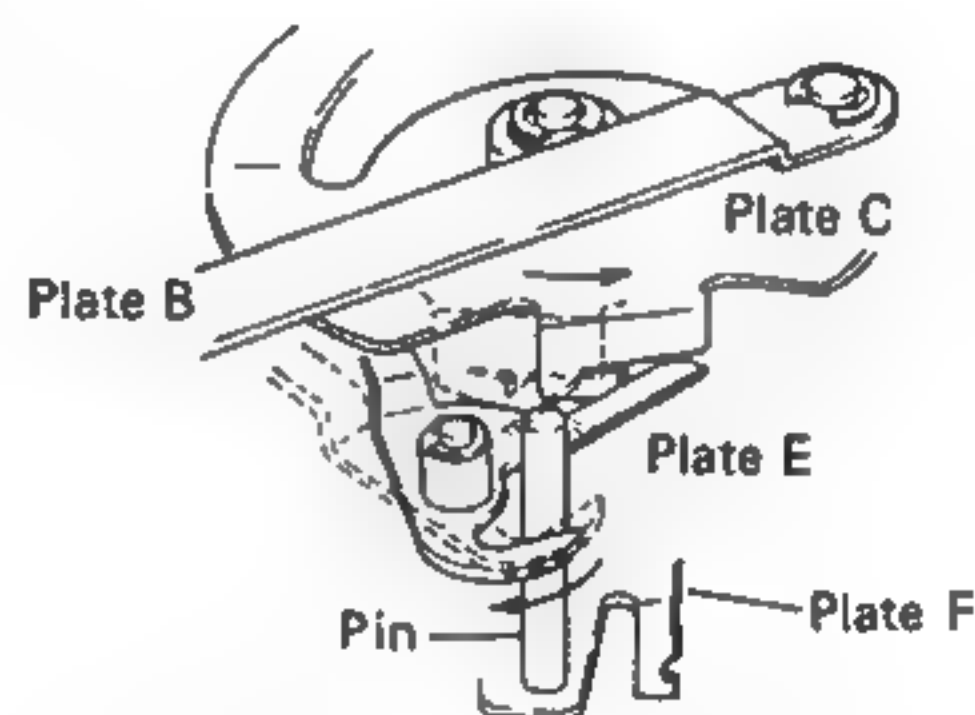

Fig. 5
7. As cam A rotation continues further, plate C rotation continues and plate E disengages from plate F pin (Step 5), freeing the tonearm (Fig. 5).